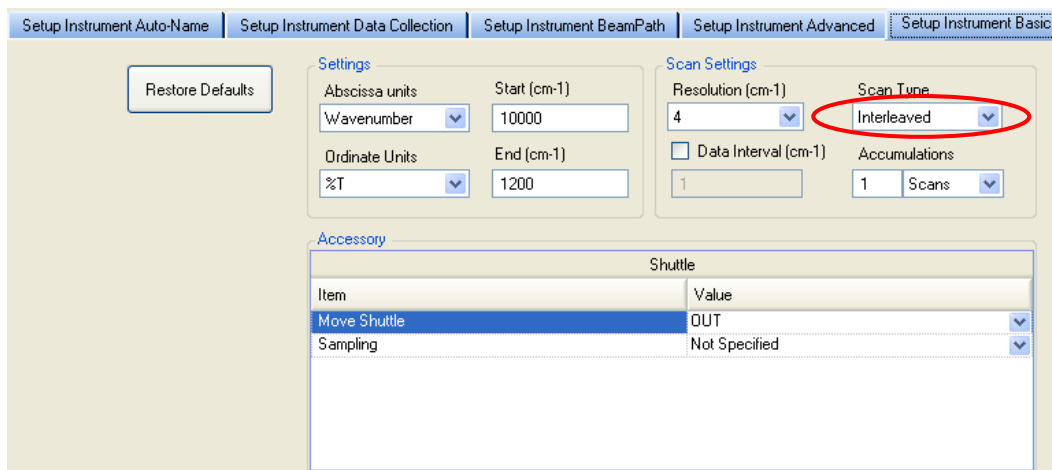

Figure 13 Selecting Interleaved as the Scan Type
1. To use the interleaved mode, where the shuttle automatically collects a background before scanning the sample, set the Scan Type to **Interleaved** on the Setup Instrument Basic tab (Figure 13).